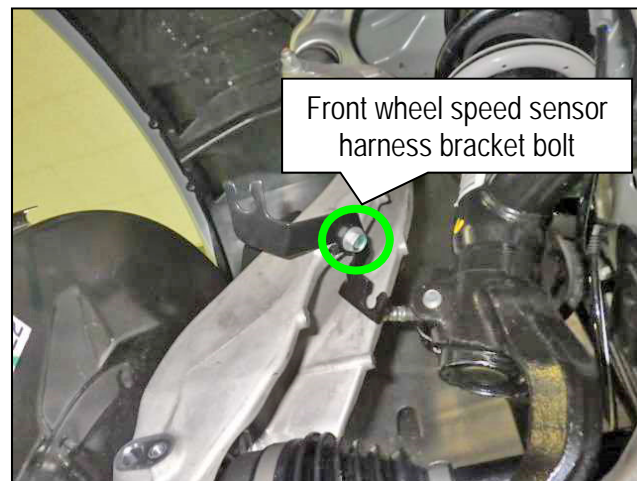

Figure 2
5. Remove the front wheel speed sensor harness bracket bolt (10 mm) from the steering knuckle (Figure 2).